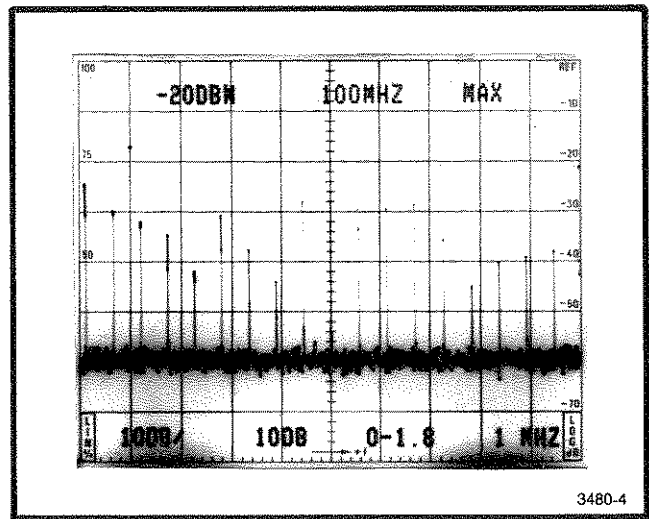

Fig. 3-4. Typical display of calibrator markers in MAX Span position.
e. Note the comb of 100 MHz markers at the left side of the display (see Fig. 3-4). Tune the dot marker to a position above the first 100 MHz marker.